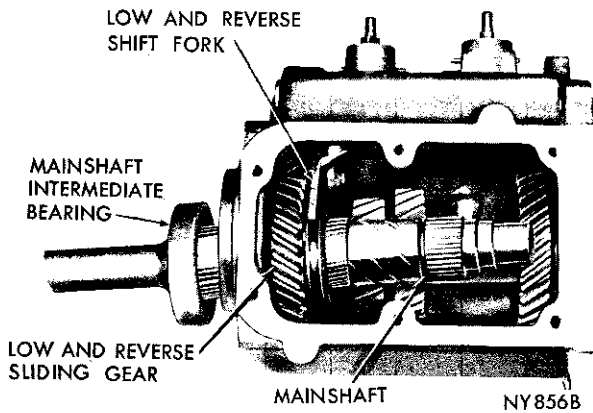

Fig. 23—Removing or Installing Mainshaft
(5) Remove the low and reverse sliding gear and shift fork, (Fig. 23), as the mainshaft is completely withdrawn from the case.